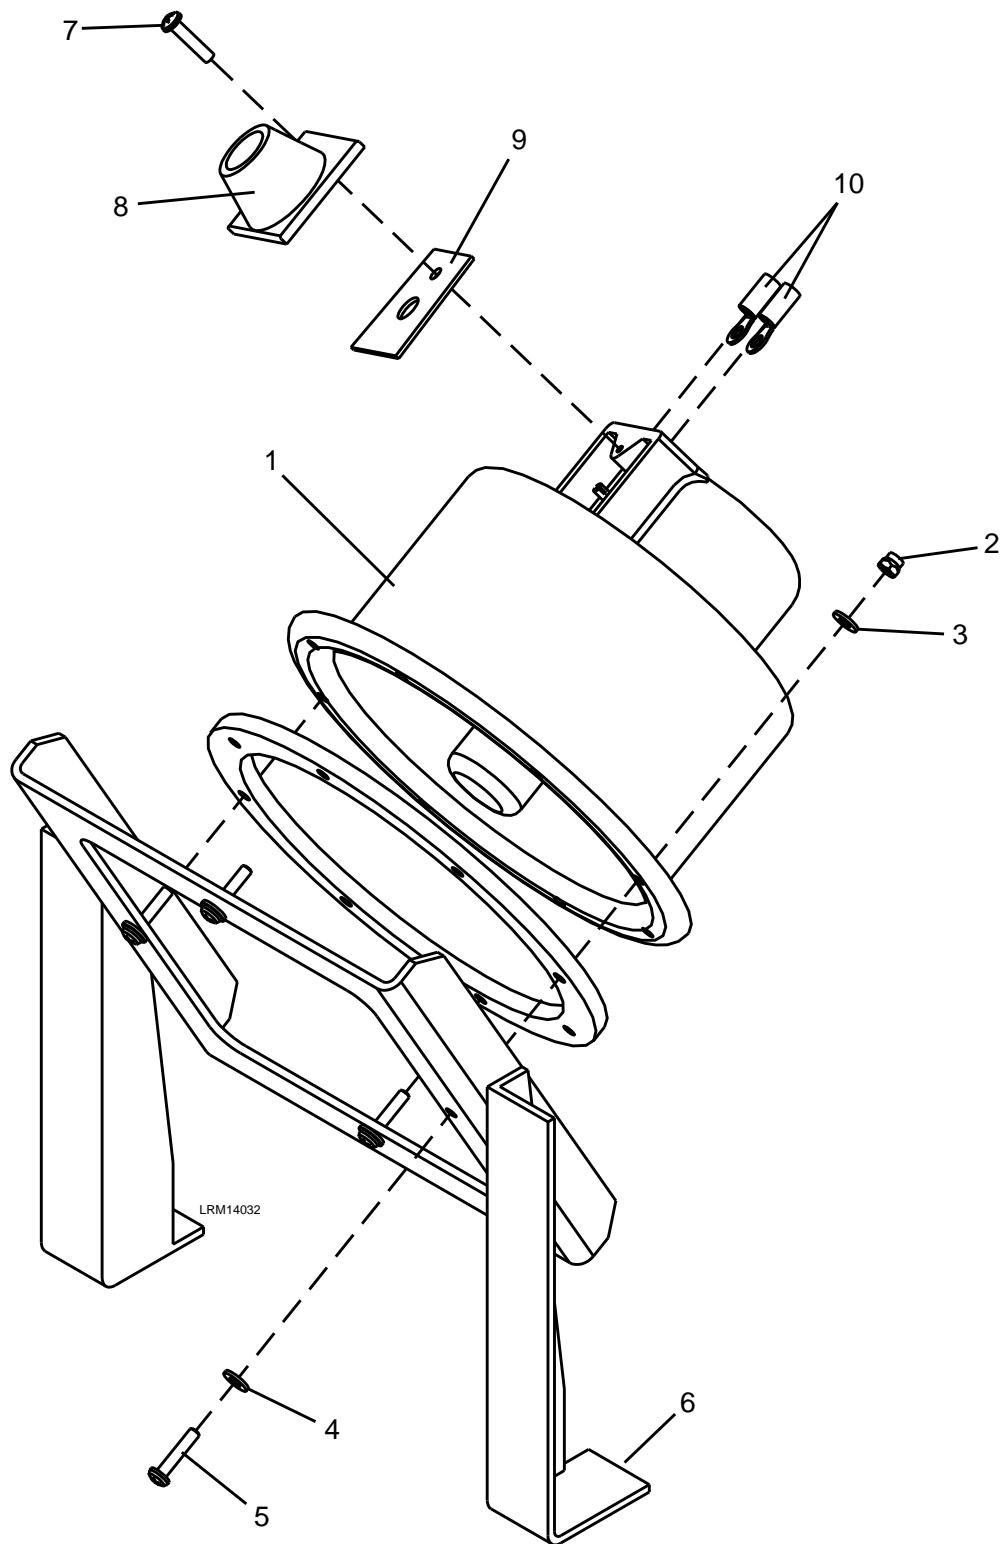

Figure 7-20: Exterior Speaker
1. Disconnect the #6 electrical connections (10) from the Exterior Speaker (1) by removing the screw (7) from the cover (8) and the cover gasket (9). See Figure 7-20.
2. Remove the four M4 ESNA nuts (2) and M4 plain washers (3), M4 x 20 screws (5), and M4 plain washers (4).
3. Carefully remove the Exterior Speaker (1) from the mounting bracket (6).